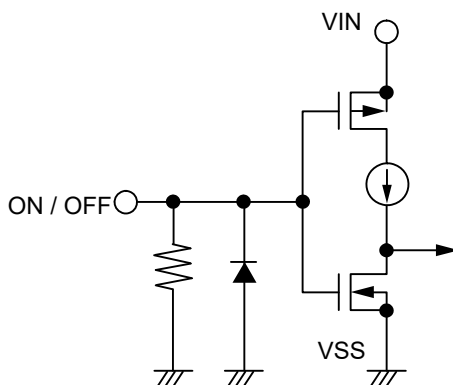

Figure 11
The ON / OFF pin is configured as shown in **Figure 11**.
*2. Note that the IC's current consumption increases as much as current flows into the pull-down resistor when the ON / OFF pin is connected to the VIN pin and the S-19253xxxH Series is operating (refer to **Figure 11**).